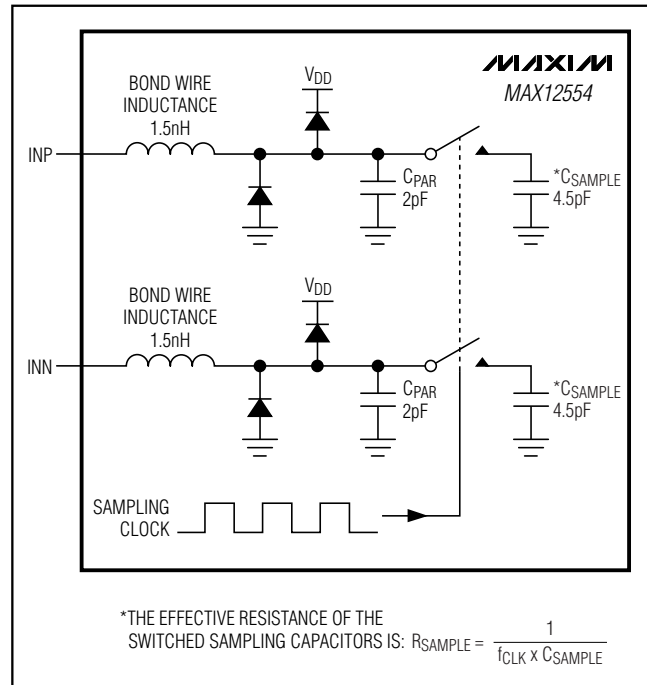
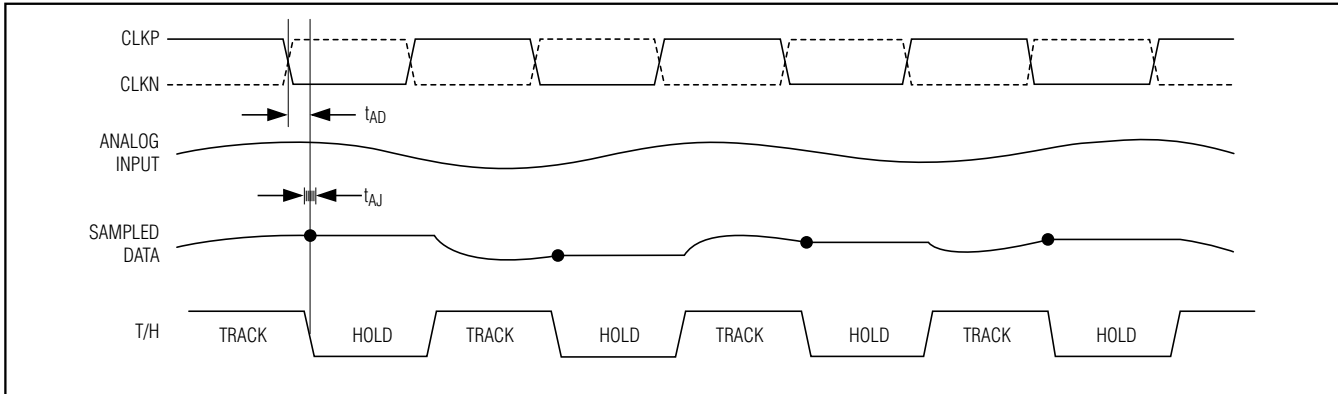

Figure 3. Simplified Input T/H Circuit
Figure 4. T/H Aperture Timing
Figure 3 displays a simplified functional diagram of the input T/H circuit. This input T/H circuit allows for high analog input frequencies of 175MHz and beyond and supports a common-mode input voltage of  $V_{DD} / 2 \pm 0.5V$ .
The MAX12554 sampling clock controls the ADC's switched-capacitor T/H architecture (Figure 3) allowing the analog input signal to be stored as a charge on the sampling capacitors. These switches are closed (track) when the sampling clock is high and open (hold) when the sampling clock is low (Figure 4). The analog input signal source must be capable of providing the dynamic current necessary to charge and discharge the sampling capacitors. To avoid signal degradation, these
- INP, INN analog inputs are disconnected from the internal input amplifier (Figure 3).